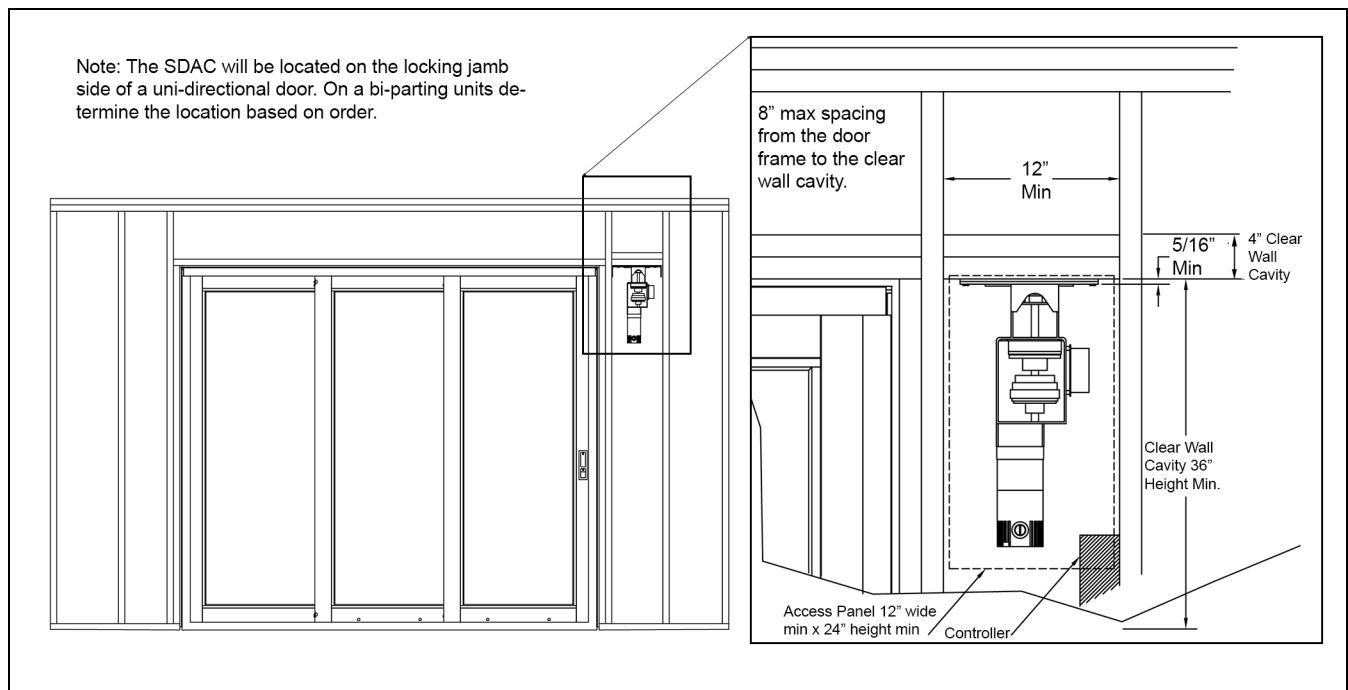

Figure 1
Prep your framing material by providing an uninsulated wall cavity with a 12" (305) minimum width by 36" (915) minimum height (starting at the top of the door header). See Figure 1.